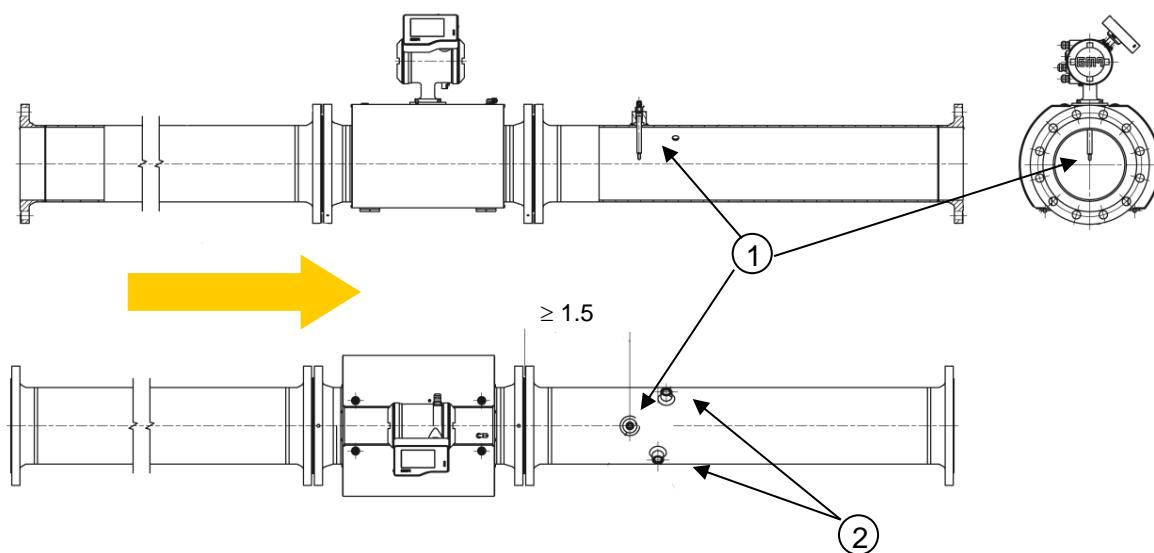

Fig. 26 Example of an external RMA thermowell (1)
The example in Fig. 26 shows an RMA thermowell (1) 1.5 DN in the outlet pipe for the temperature sensor and two additional sleeves (2) for the thermowells for an external volume corrector (2).